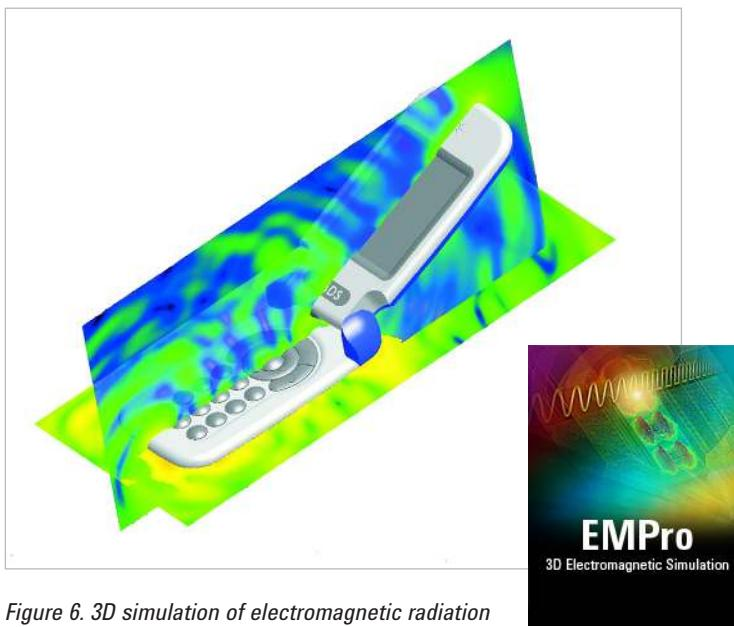

Figure 6. 3D simulation of electromagnetic radiation emitting from a mobile phone
**Why?** EMC tests are conducted to simulate antenna structures and their placement within the EUT, in conjunction with the presence of real-world proximity effects of other devices emitting radiation. An example of equipment that may be used for this step is the Keysight EMPro 3D Electromagnetic Simulation software, shown in Figure 6.